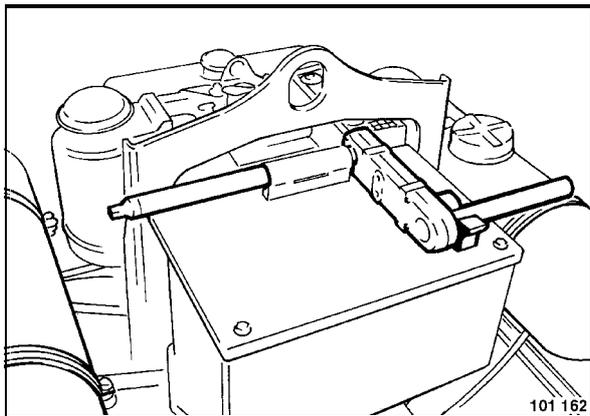

Fig. 24
- Attach the crank handle (Fig. 24).